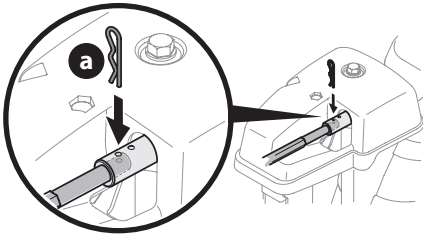

Figure 25
- Push chute control rod toward control panel until hole in rod lines up with hole in chute control input collar closest to chute control head and insert hairpin clip (a) removed in Step 1 (Figure 25).